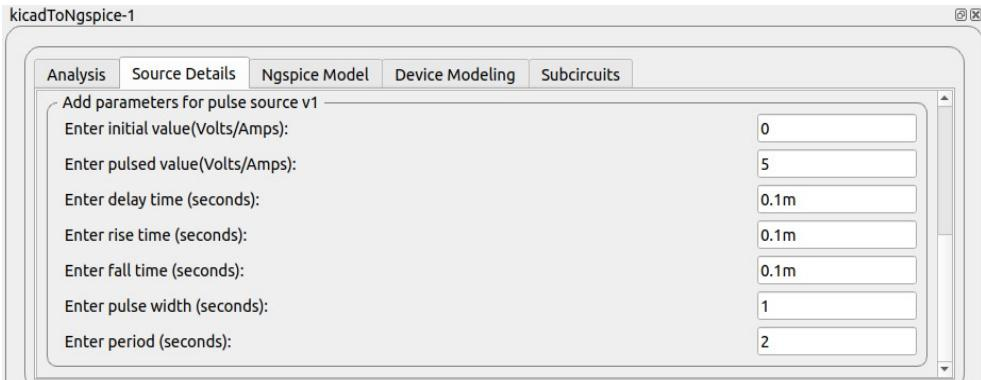
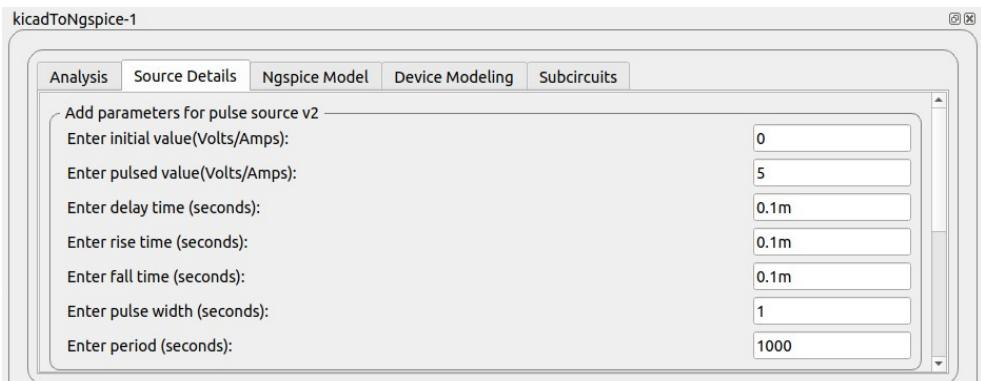

Figure 11.33: Values for Source v1
Figure 11.34: Values for Source v2
- Now click on Source Details and enter the values for Source v1 and Source v2 as shown in Fig. 11.33 and Fig. 11.34